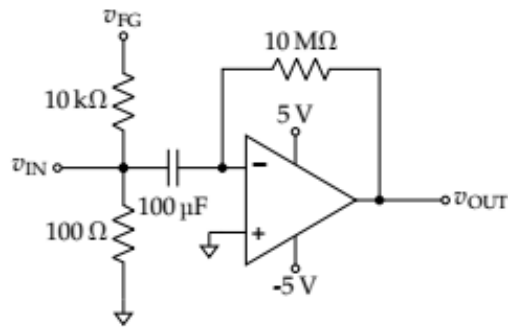

Figure 7.7: Open loop measurement circuit.
1. Construct the circuit in figure 7.7